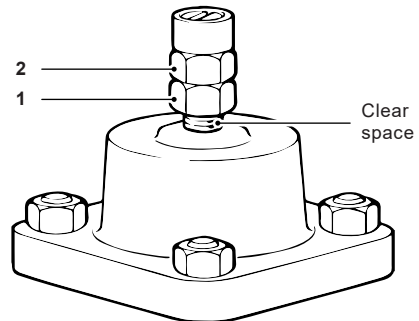

Fig. 11
If it is seen that the adjustment nut (1) and lock nut (2) assembly rises with the rod clear of the top face of the cover (3) as in Figure 11, it is an indication that the sensor is being subjected to a temperature in the excess of normal but not sufficiently high to bring the fail safe device into operation.